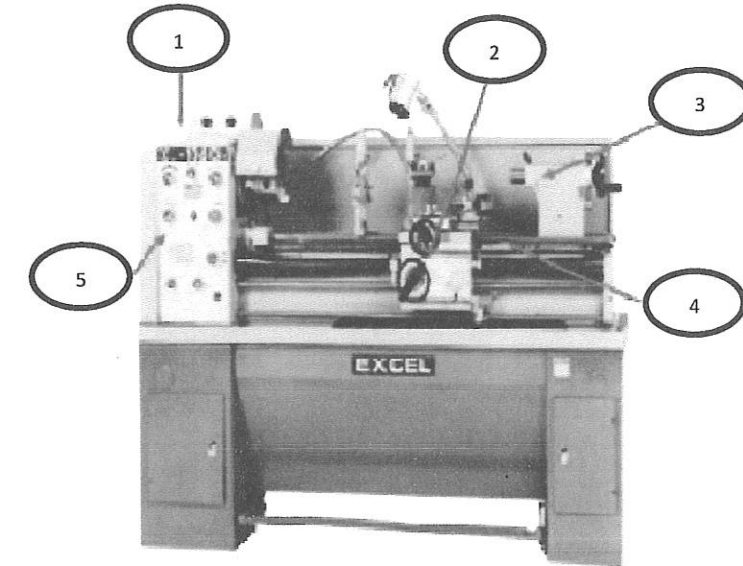

Figure 2a / rajah 2a
- (a) i. Label **FIVE (5)** main parts of a lathe machine in figure 2a below.